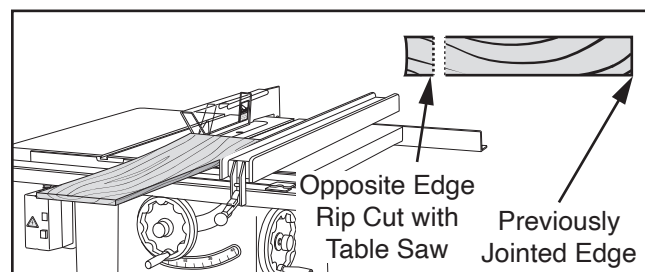

Figure 43. Rip cutting on table saw.
2. Place jointed edge of 2x3 against table saw fence and rip cut just enough off opposite side to square up two edges of 2x3, as shown in **Figure 43**.